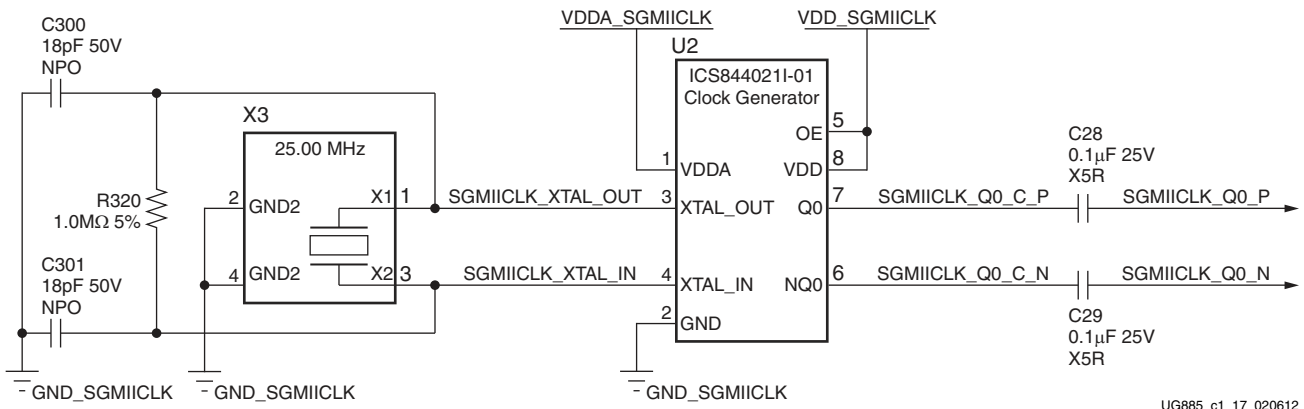

Figure 1-17: Ethernet 125 MHz SGMII GTX Clock
An Integrated Circuit Systems ICS844021I chip (U2) generates a high-quality, low-jitter, 125 MHz LVDS clock from a 25 MHz crystal (X3). This clock is sent to FPGA U1, Bank 113 GTX transceiver (clock pins AH8 (P) and AH7 (N)) driving the SGMII interface. Series AC coupling capacitors are present to allow the clock input of the FPGA to set the common mode voltage. Figure 1-17 shows the Ethernet SGMII clock source.